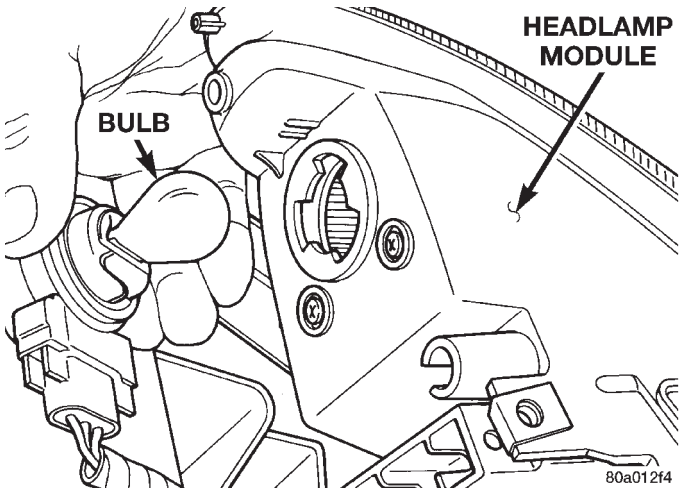

Fig. 3 Park and Turn Signal Lamp Bulb
- (4) Rotate socket counterclockwise one quarter turn.
- (5) Pull socket from back of lamp (Fig. 3).
- (6) Pull bulb from socket.